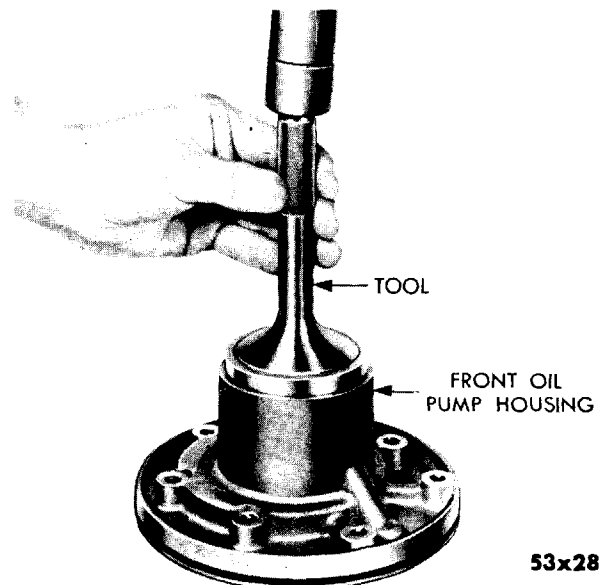

Fig. 37—Installing Front Pump Oil Seal
(1) Position front oil pump housing oil seal in front of oil pump housing (metal portion of seal down). Using driver, Tool C-3278, bottom seal into housing, as shown in Figure 37.
(2) Coat new front oil pump housing seal (neo-